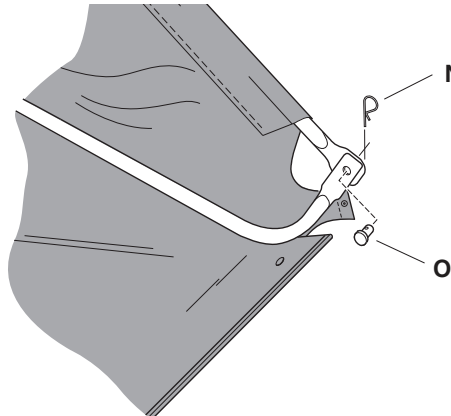

Figure 17
STEP 17: (SEE FIGURE 17)
- Connect the tube assemblies together on each side using 3/8" x 1/2" clevis pins (O) and 3/32" hair cotter pins (N).